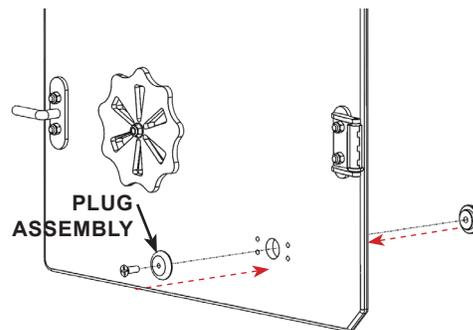

FIGURE 3.25 - Door Plug Installation
- B:** Door Plug - Install the door plug assembly with a Phillips head screwdriver, turn the screw clockwise to secure the plug to the door. See FIGURE 3.25